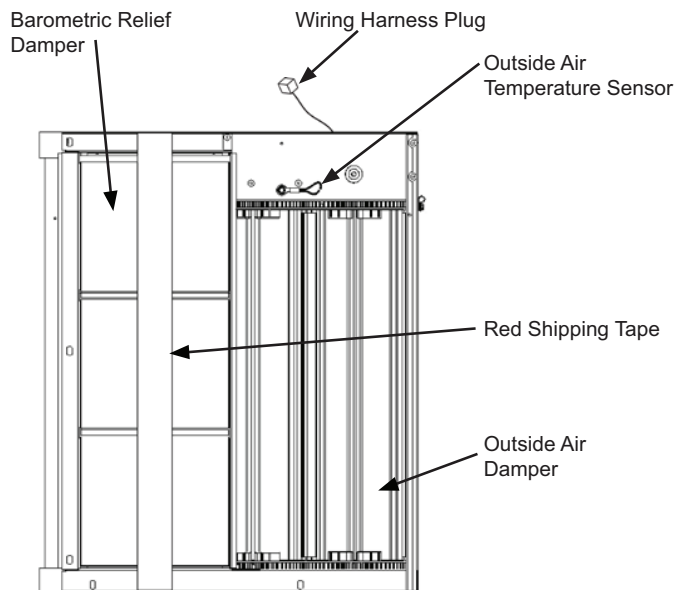

Fig. 1 — EconoMi\$er X Component Locations
16. If the EconoMi\$er X will be operating with an enthalpy outside air sensor, remove the factory-installed HH79ZZ007 dry bulb sensor from the front face of the economizer (see Fig. 1), and install the accessory enthalpy sensor HH57AC081 in the same location. Holes are pre-punched. Connect the (2) wire gray harness with plug from the EconoMi\$er X to the enthalpy sensor. See wiring diagram Fig. 25 and 30. Refer to the "Installing Optional HH57AC081 Outside Air Enthalpy Sensor" section for more details on enthalpy settings.